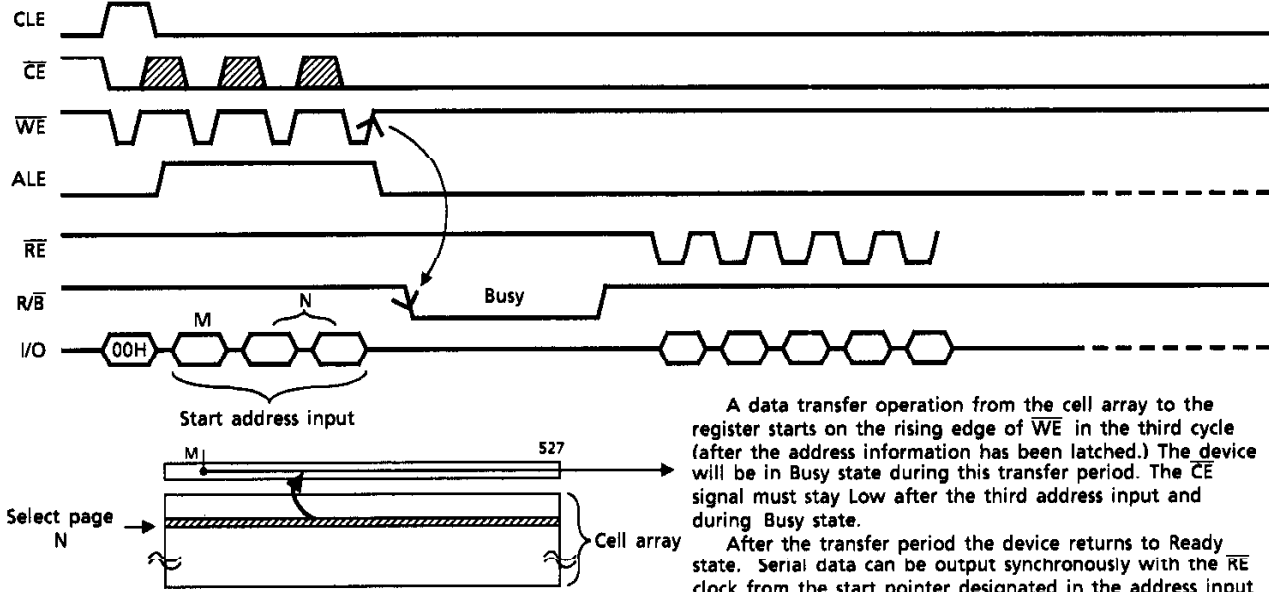

Figure 3. Read mode (1) operation
Read mode (1) is set by issuing a 00H command to the command register. Refer to Figure 3 below for timing details and block diagram.